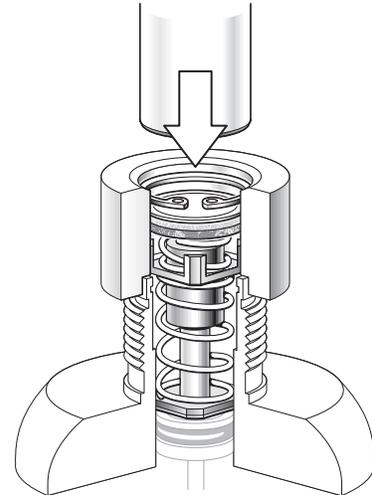

Fig. 14a
13. Insert the seat spring(9b) and open end of the spring block assembly(10) into the inlet boss, over the stem of the high pressure seat. Then place the shorter seat spring(9a) directly over the top of the spring block assembly.
14. Place the high pressure spring block guide (P/N 1110-00) over the inlet boss, with the recessed side facing down. Then, lay the sintered filter(8) inside the spring block guide with the rough side facing up, followed by the washer(7) and the circlip(6) with its flat side facing up.
15. While holding the spring block guide securely in place over the first stage inlet boss, place the end of a 1/2" wooden dowel inside it; over the circlip, washer, and filter. Firmly grasp the dowel with a thumb held over the top end, and plunge it downward with sufficient force to seat the circlip into the groove inside the inlet boss (see Fig. 14a). Slowly remove the dowel and spring block guide to check whether the circlip is securely locked in place inside the inlet boss (see Fig. 14b). The washer should be seated evenly beneath it, and should not be pinched or extruded. If necessary, disassemble and repeat this step to ensure that the circlip is securely held in place.